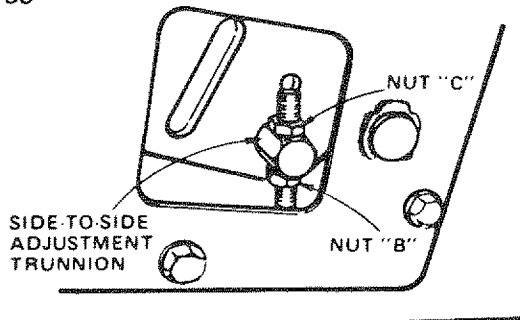

FIGURE 39
- If distance "A" needs to be changed, snap out access hole cover on L.H. side above footrest. Use 11/16" wrench on nuts "B" and "C" at side-to-side adjustment trunnion (Fig. 39).